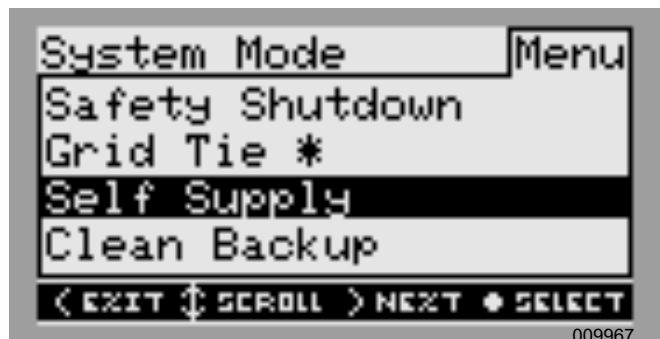

Figure 6-4. Selecting Operational Modes (3 of 4)
- See Figure 6-4. Use the up and down arrows to highlight the desired mode and press the center button to select.